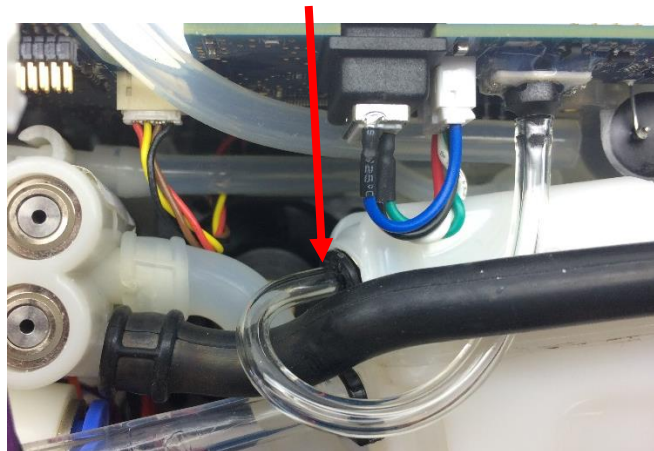

Figure 10: Accumulator Sensor Tubing
4. Remove the Accumulator Sensor Tubing by pushing down on the retaining ring while gently pulling on the tubing. Be careful not to apply any force to the pressure sensor. (Figure 10)
5. Install the sensor tube by routing it around the long molded column tube and inserting it into the quick-connect fitting on the Accumulator. After insertion, pull lightly on the polyurethane tubing to ensure that it is fully seated in the quick-connect fitting (Figure 10).